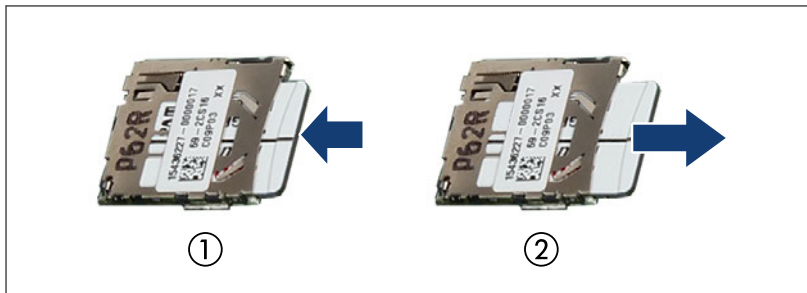

Figure 232: Removing the microSD card
- ▶ To eject the defective microSD card, gently push it in and then let go, see Figure 232.